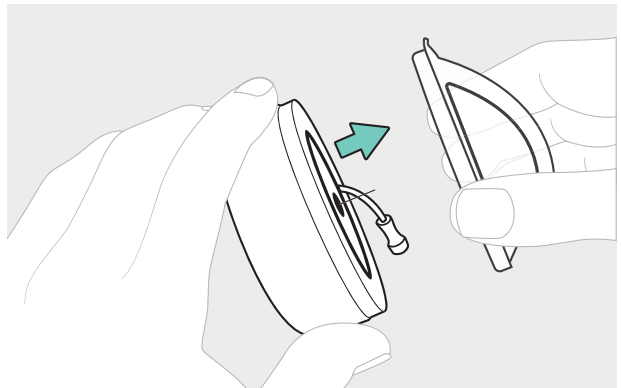

Figure 58
- Open the insulin infusion set packaging according to the insulin infusion set instructions to access the tubing (see Figure 58).